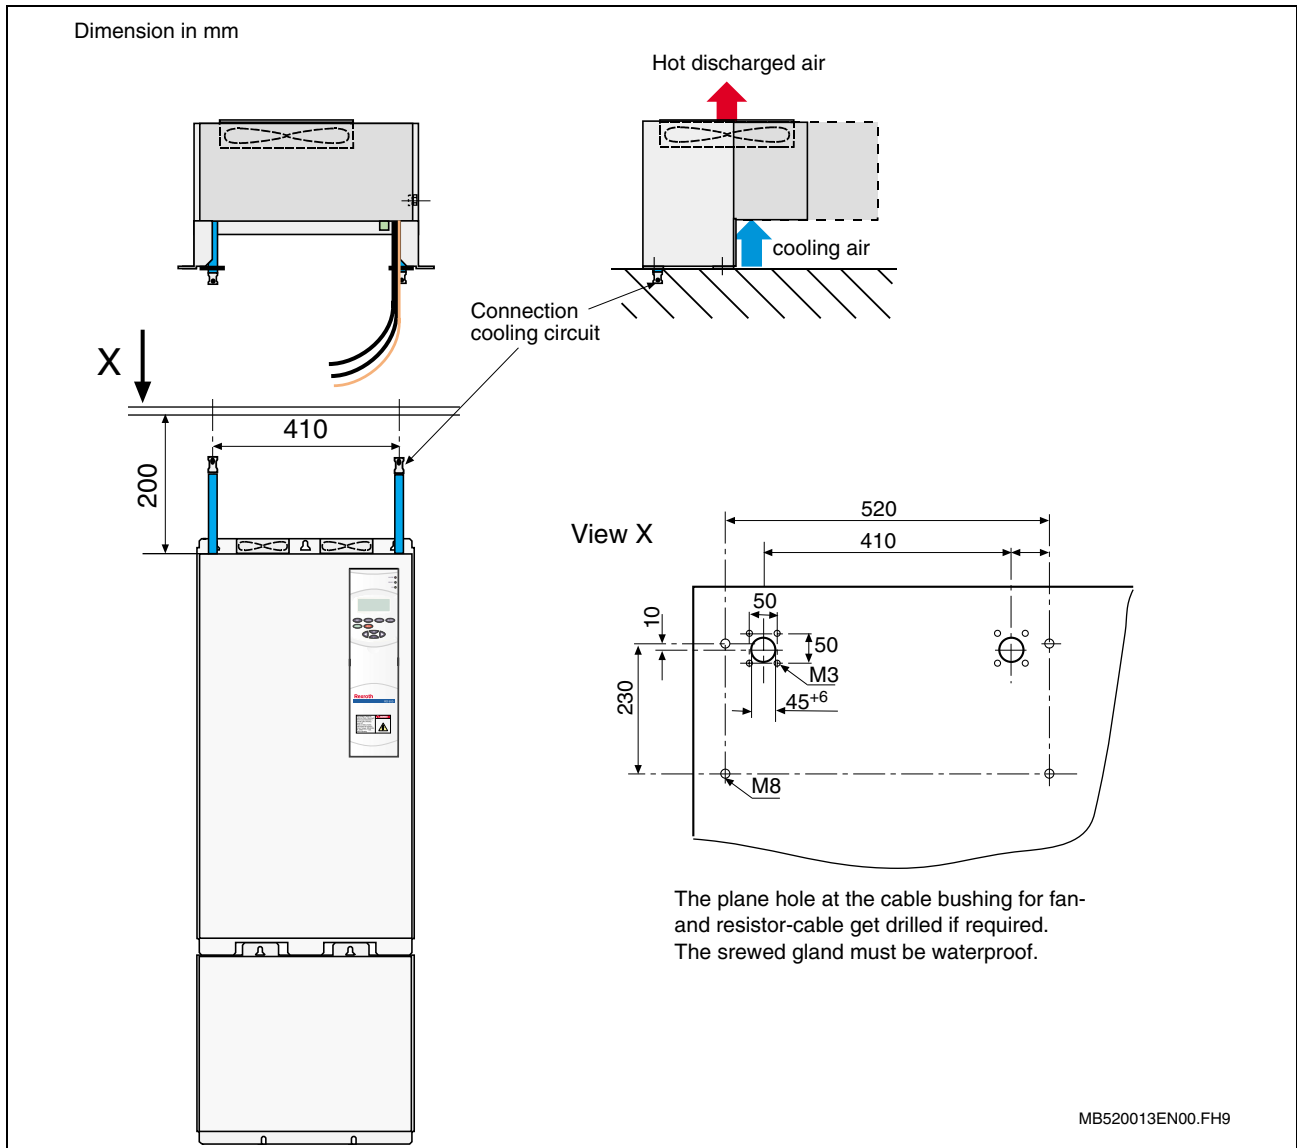
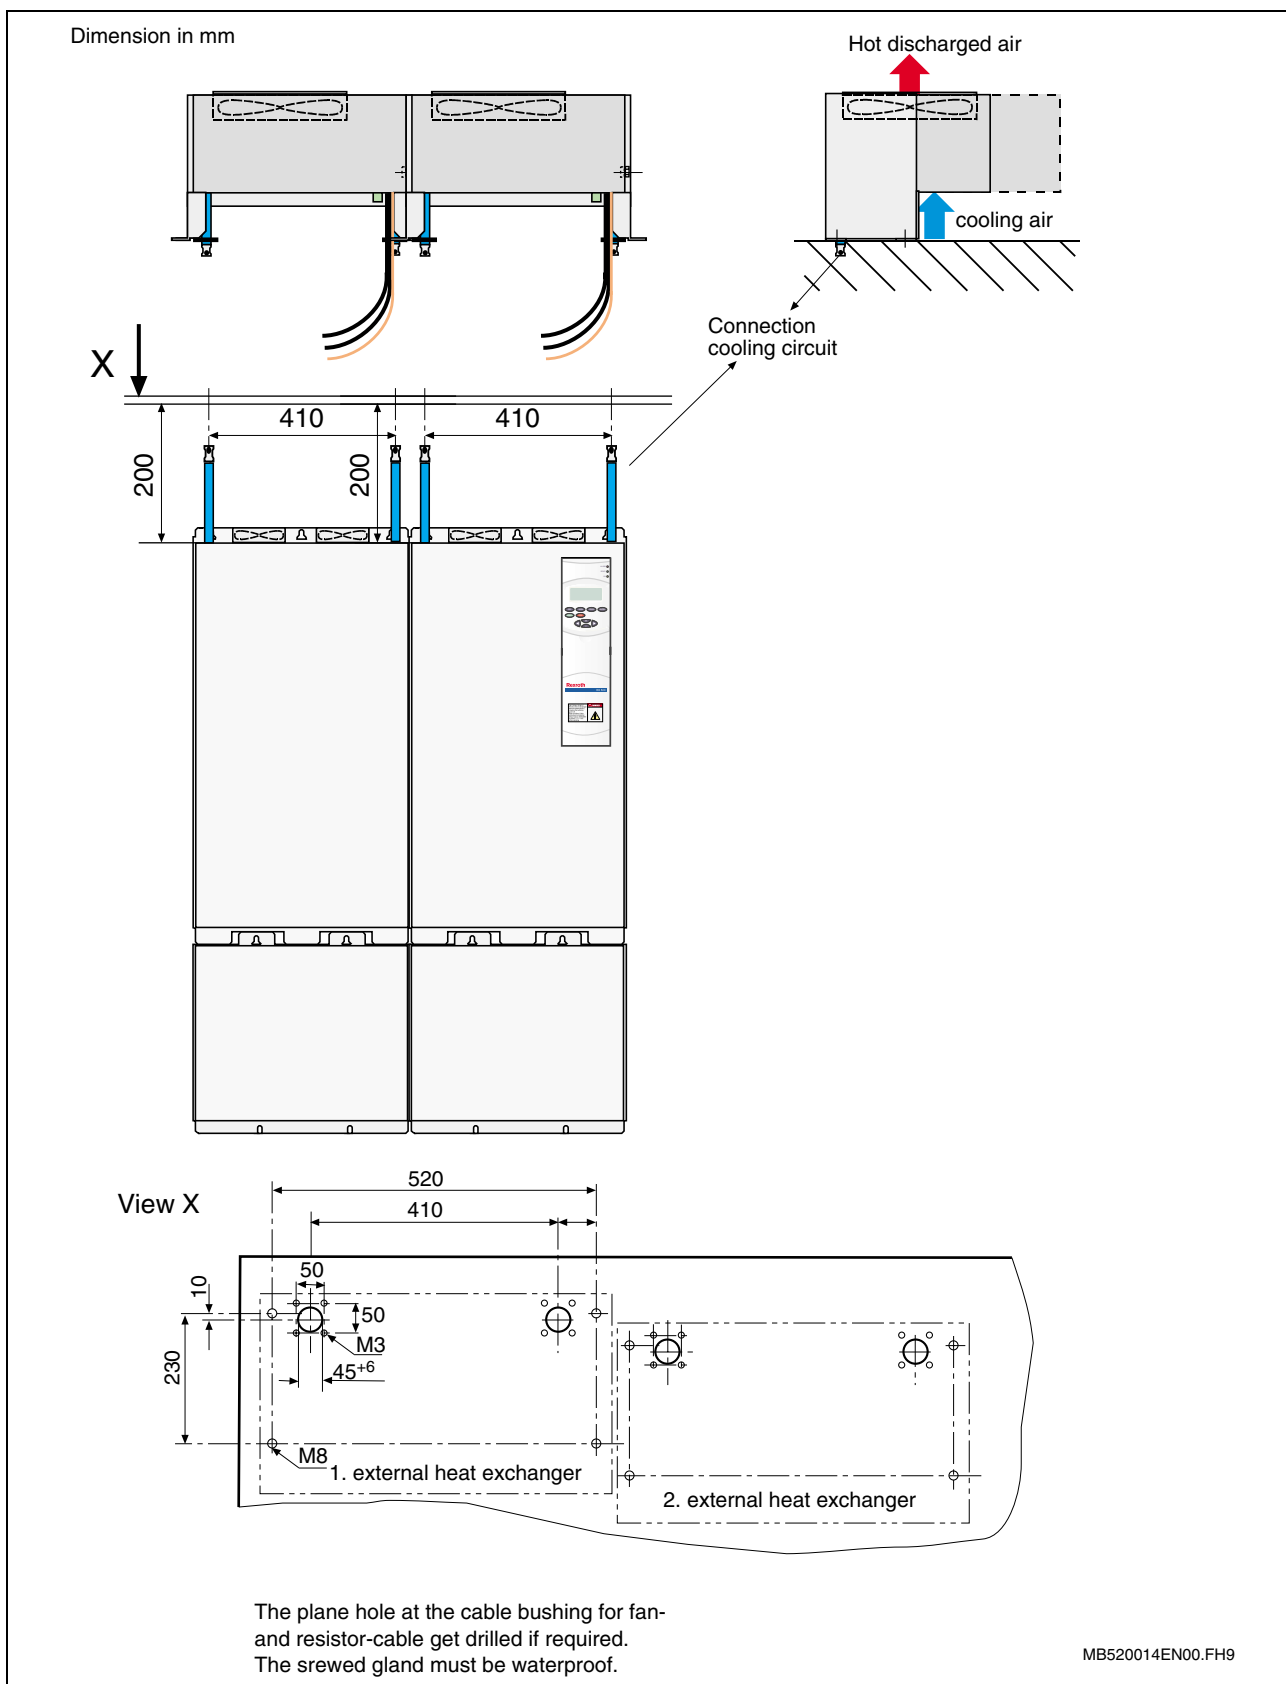

Fig.: 3-49 Dimension sheet for cabinet roof mounting, size class G
Fig.: 3-50 Dimension sheet for cabinet roof mounting, size class H
- Attach the external heat exchanger to the desired location. This can be mounted on the roof or wall of the cabinet. See Fig.: 3-49 , Fig.: 3-50 . Additional technical data are described in documentation DOK-RD500\*-RD500\*SUPPL-FKxx-EN-P (Accessories).